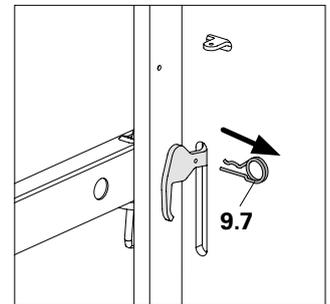

Fig. A1.08a
3. 5. Remove cotter pin (9.7) on the underside of the deck. (Fig. A1.08a)